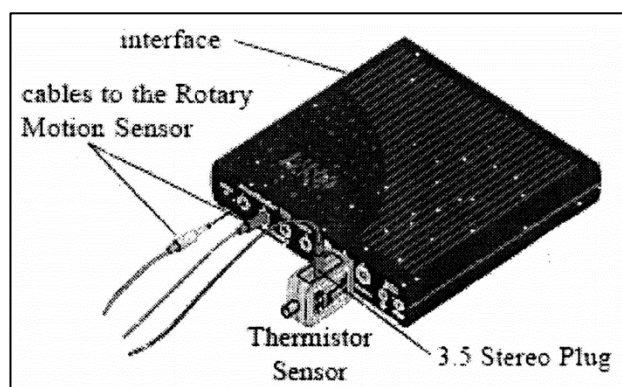

Figure 5 Plugging the Thermistor and Rotary Motion Sensors into the ScienceWorkshop Interface.
4. **Plug the Sensors into the Interface (Figure 5).** Insert the DIN connector of the Thermistor Sensor into an analog channel in the *ScienceWorkshop* interface. Attach the stereo plug of the Thermistor Sensor cable into the 10 k Ω jack on the Thermistor Sensor. Insert the banana plugs for the RMS into digital channels 1 and 2 (yellow = channel 1, black = channel 2) on the *ScienceWorkshop* interface.